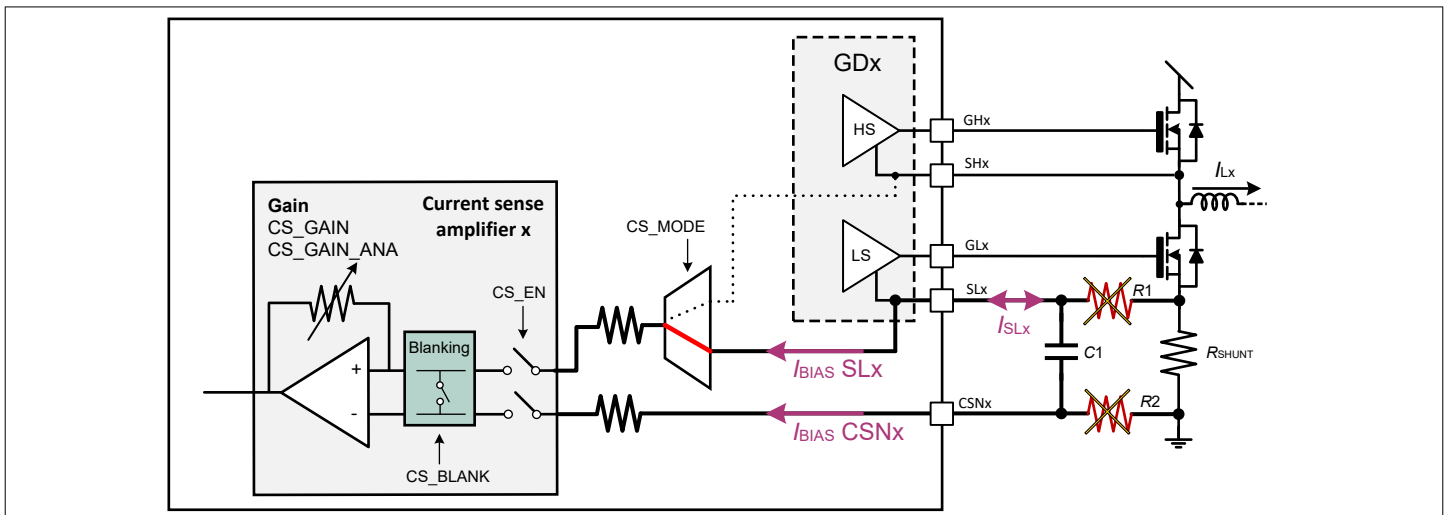

Figure 72 Current sense amplifier input filtering
RC filter at SLx and CSNx is not preferred and hence must be done with care. Resistors $R1$ and $R2$ as shown in Figure 72 introduce unexpected voltage drops due to amplifier bias current and/or gate driver current, which affect the R_{SHUNT} current sensing accuracy. $R1$ also limits the current of low-side (LS) gate driver and acts in fact as a R_g resistor. A parallel capacitor ($C1$ as shown below) between SLx and CSNx can be used. This can increase switching noise during MOSFET switching, at the same time improve steady state value. Larger capacitor values will accentuate this effect. Depending on application this value can be adjusted. The parallel capacitor should be close to the SLx and CSNx inputs pins on PCB and values between 100 pF to 1 nF can be a good starting point.